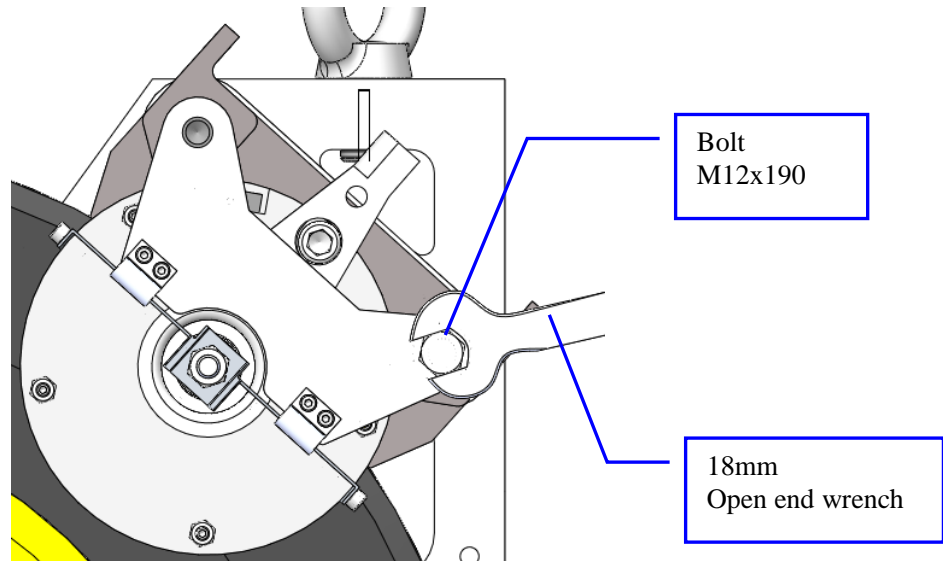

Figure 31: Remove Bolt M12x190
4. Use the open end wrench (18mm) to remove the bolt M12x190. See Figure 31.